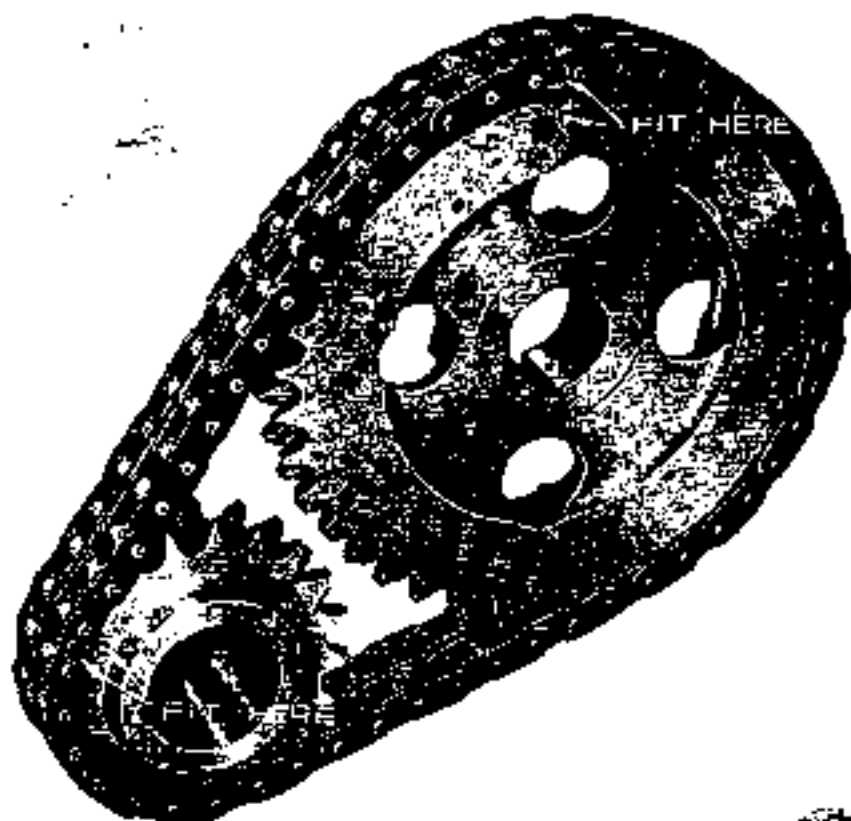

Fig. 2 Setting of Timing Gear Mark
3. Next, inserting the driving shaft of the distributor at an angle to the engine, engage the gear on its lower end with the gear on the camshaft. During this assembly place the slot of the distributor drive at the upper end of the shaft somewhat to the left as shown in Fig. 2. At this time, the smaller of the semi-circles is placed toward the front.